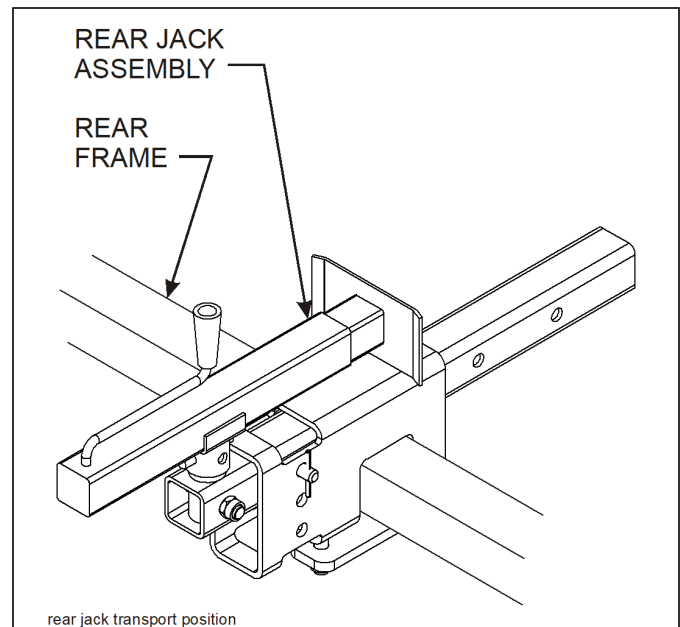

Figure 4-16: Rear Jack Transport Position
12. Be sure to disassemble rear jack assembly and move into transport position. See Figure 4-16 before moving machine.